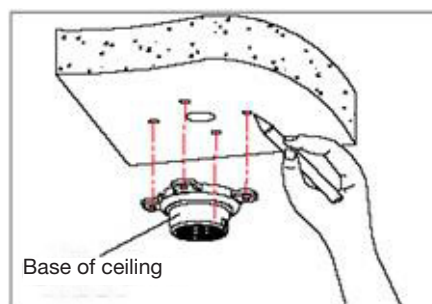

Fig. 12
a. As shown in Fig 12, with the installation holes in the base of ceiling as pattern, draw punched locations in the ceiling and punch to install M6 expansion bolt.